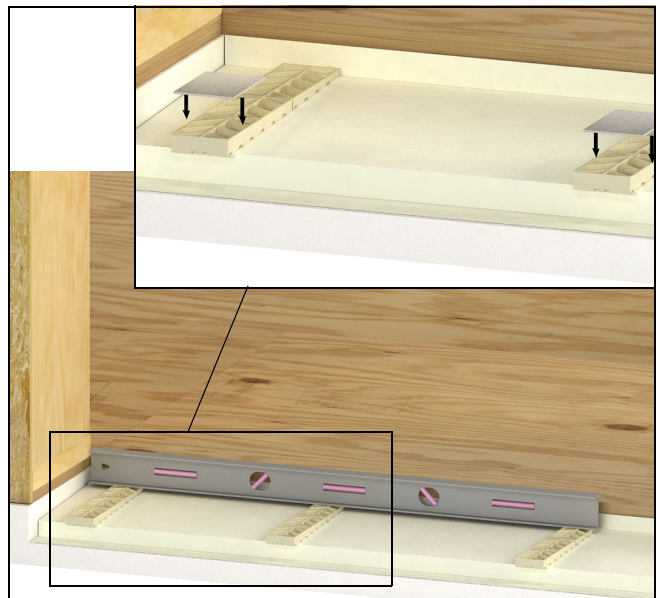

Figure 4
4. Starting at the highest point, level sill shim points using supplied adhesive shims. Place on top of counter shims. *Note: Larger shims are used on the interior most row. Maximum of four flat shim high.* See figure 4.